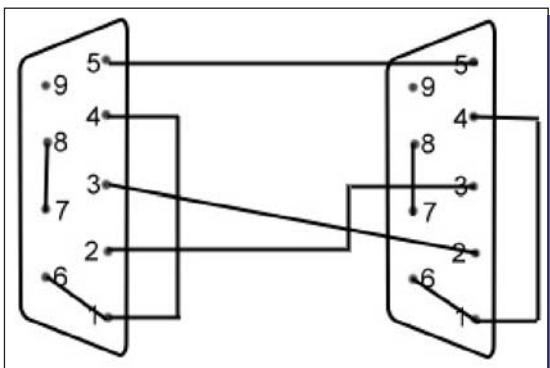

Figure 3: Null modem cable configuration
2. Connection diagram – The connection diagram (**Figure 3**) shows the wiring of the null-modem that is intended for RS232 asynchronous communications (most PC-based systems). This configuration is called so because each PC terminal detects as if some modem is connected to it rather than the other PC.